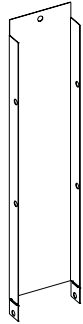

Figure 8
1. Locate the three steel middle mounting brackets under the burner cover. See Figure 8.